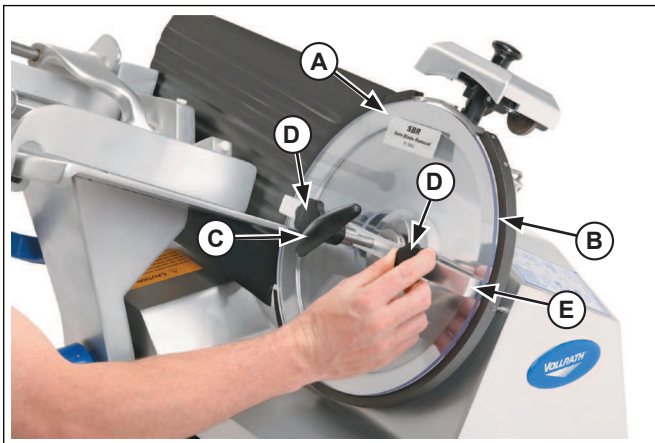

Figure 5. Safe Blade Removal Tool and Blade
3. Lift the knob (C) and sharpening assembly to the "UP" position.
4. Set the safe blade removal tool (A) onto the blade (B) aligning with center blade hole.
5. Screw the two knobs (D) into the corresponding holes on the blade (B) and tighten the knobs (D). See Figure 5.
13. Tighten the blade (B).
14. Unscrew the two knobs (D) while holding the cross bar (E). See Figure 5.